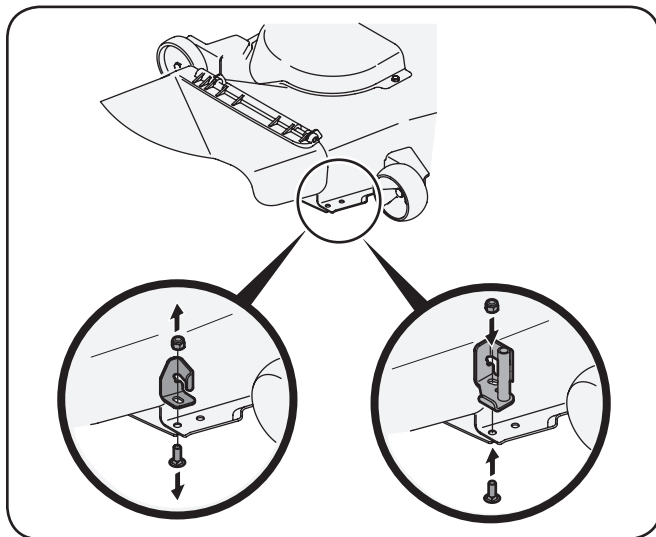

Figure 4-16
1. Remove the carriage bolt and lock nut holding the chute stop to the deck. See the left Inset of Figure 4-16. Retain the carriage bolt for reinstallation.
2. Replace with new chute stop bracket, from the bagger kit, at the same position on the deck. See the right Inset of Figure 4-16. Secure with the carriage bolt previously removed, and a 712-04065 flange lock nut from hardware pack 689-00329.